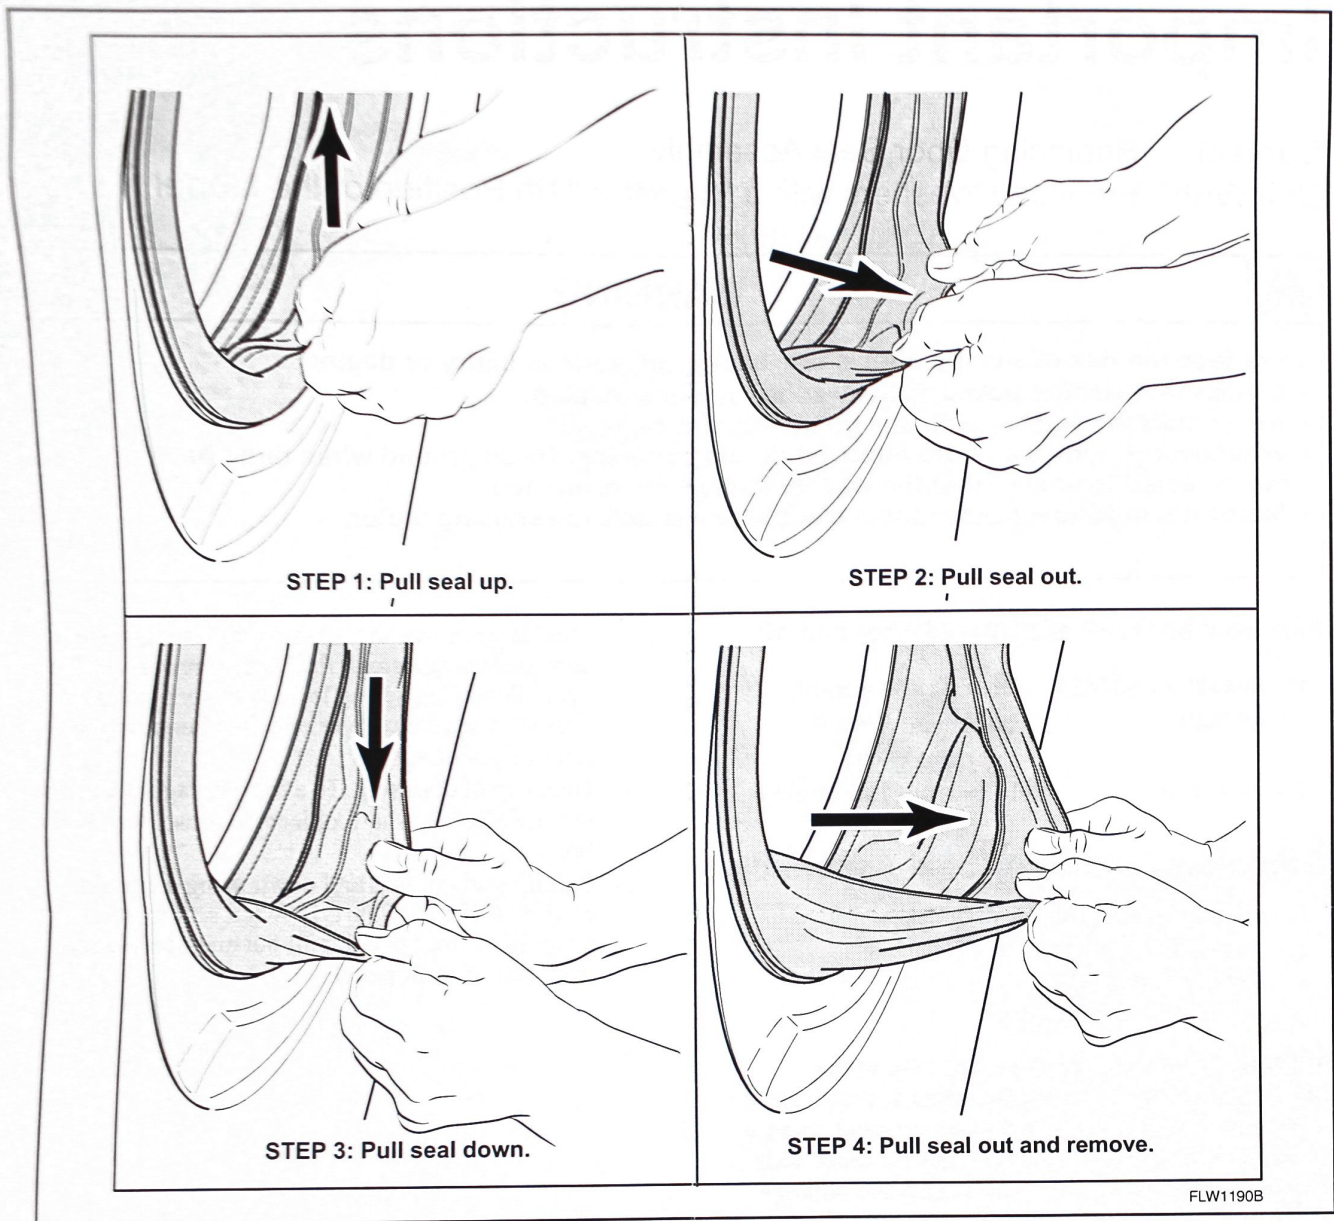

Figure 1
7. Pull lip seal up, out, and down using a circular motion. Refer to *Figure 1*. When seal releases from lip of front panel, pull out and remove seal from rest of front panel.